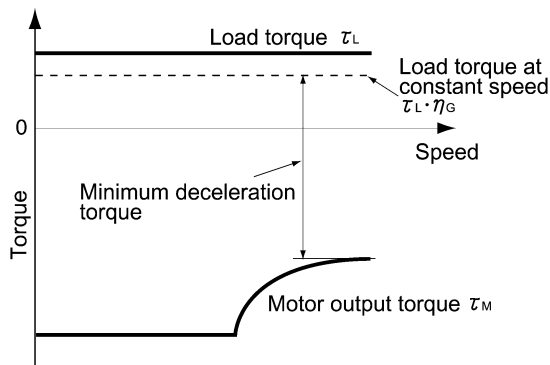

Figure 3.5 Example Study of Minimum Deceleration Torque (1)
- 2) Calculate the required minimum deceleration torque (See Figures 3.5 and 3.6.)